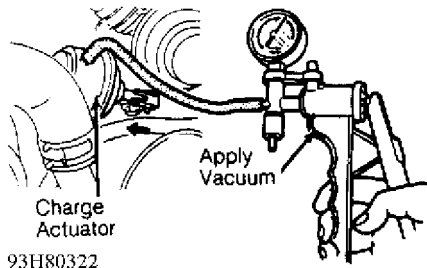

Fig. 3: Testing Charge Actuator (RX7)
1) Ensure engine is cool. Remove hose connected to actuator. Connect vacuum pump to charge actuator. See Fig. 3.